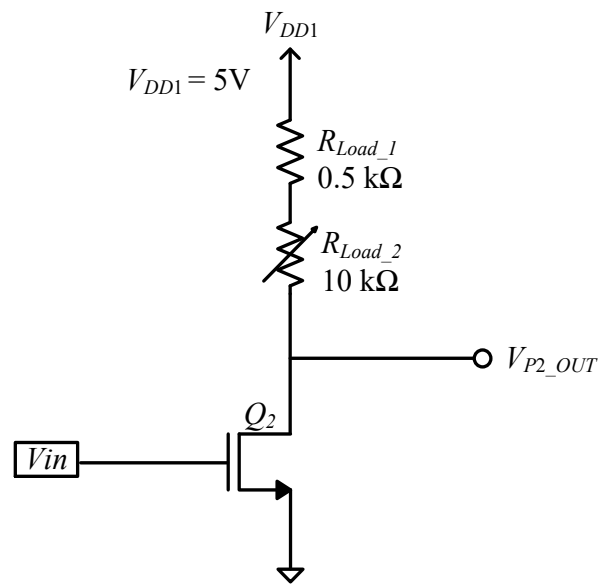

Fig. 18:
- E9 Setup the circuit as shown in Fig. 18. Set R_{load_2} to $0 \text{ } \Omega$. Adjust the function generator and send 0-5 V, 100 Hz triangle wave with 2.5 V DC bias to V_{in} .